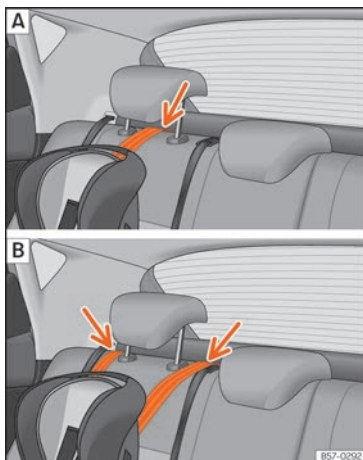

Fig. 41 Retainer strap: adjustment and assembly according to the Top Tether belt.
- Place the belt under the head restraint of the back seat » **Fig. 41** (depending on the instructions of the chair itself, lift or remove the head restraint if necessary).